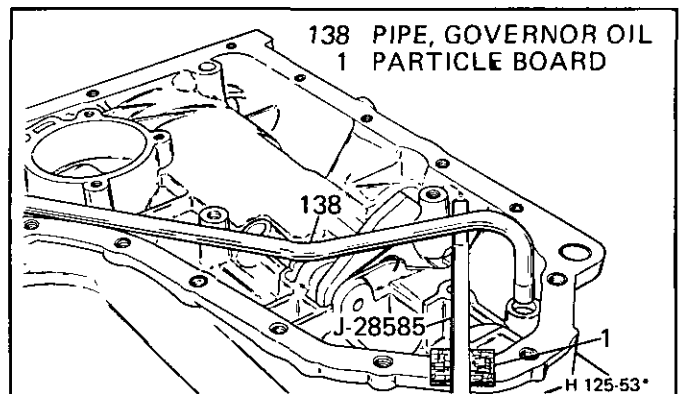

Figure 47 Governor Pipe Replacement
**Remove or Disconnect (Figure 47)**